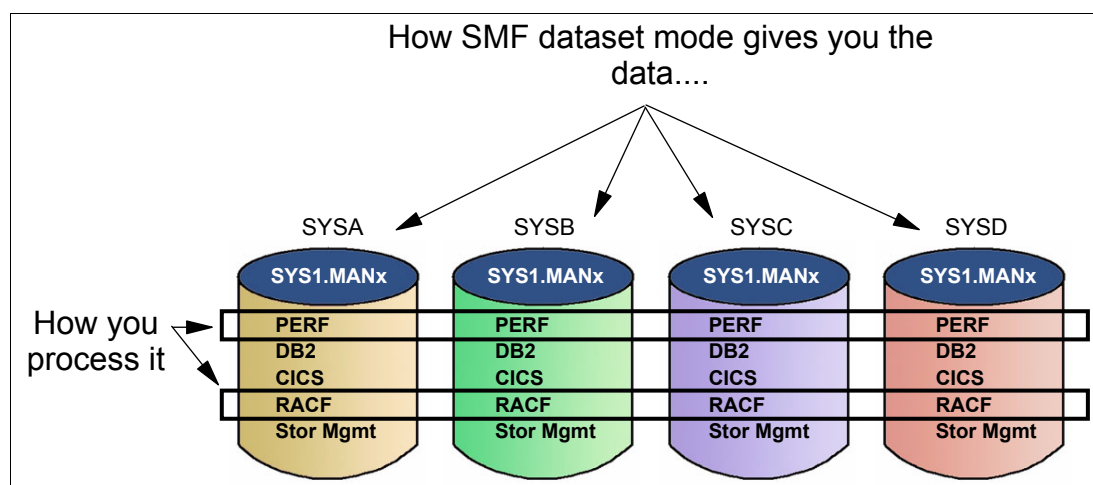

Figure 1-2 How SMF records are stored in SMF dataset mode
- The SYS1.MAN data sets contain all SMF record types for a given system. However, most enterprises want a sysplex-wide view of a given subset of SMF record types (Figure 1-2). To address the difference between how SMF data is collected and how it is used, customers typically gather a given SMF record type or types for the entire sysplex into a set of GDGs and process the data from there. This means that a certain amount of postprocessing is required to group the SMF records in the way that you want to use them.